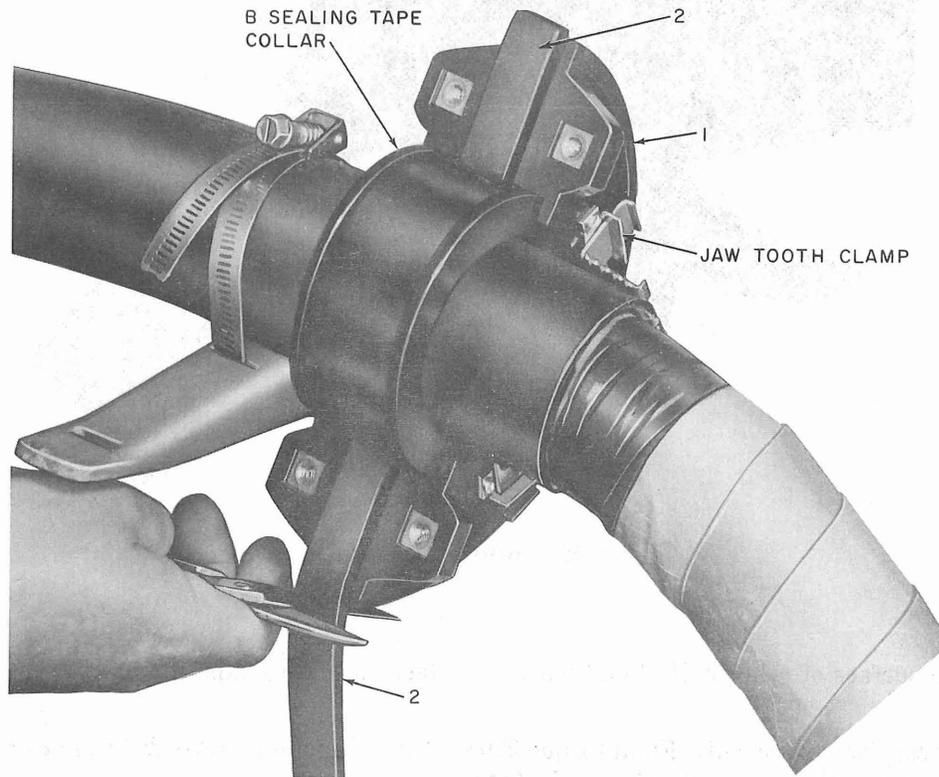

Fig. 21—Placing Threaded Insert Section of End Plate
4.01 Figures 21 through 24 outline procedures for installing single entrance end plate on cable.